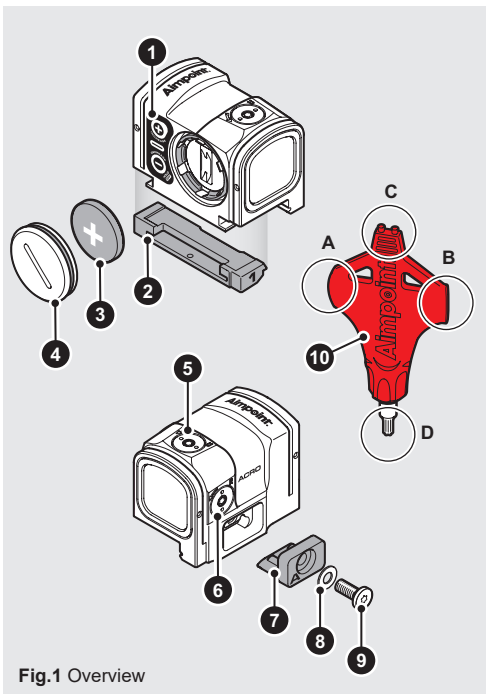

Fig.1 Overview
See Fig. 1
- c Insert battery (3) with the positive end (+) toward the battery cap (4) as seen in Fig. 1.